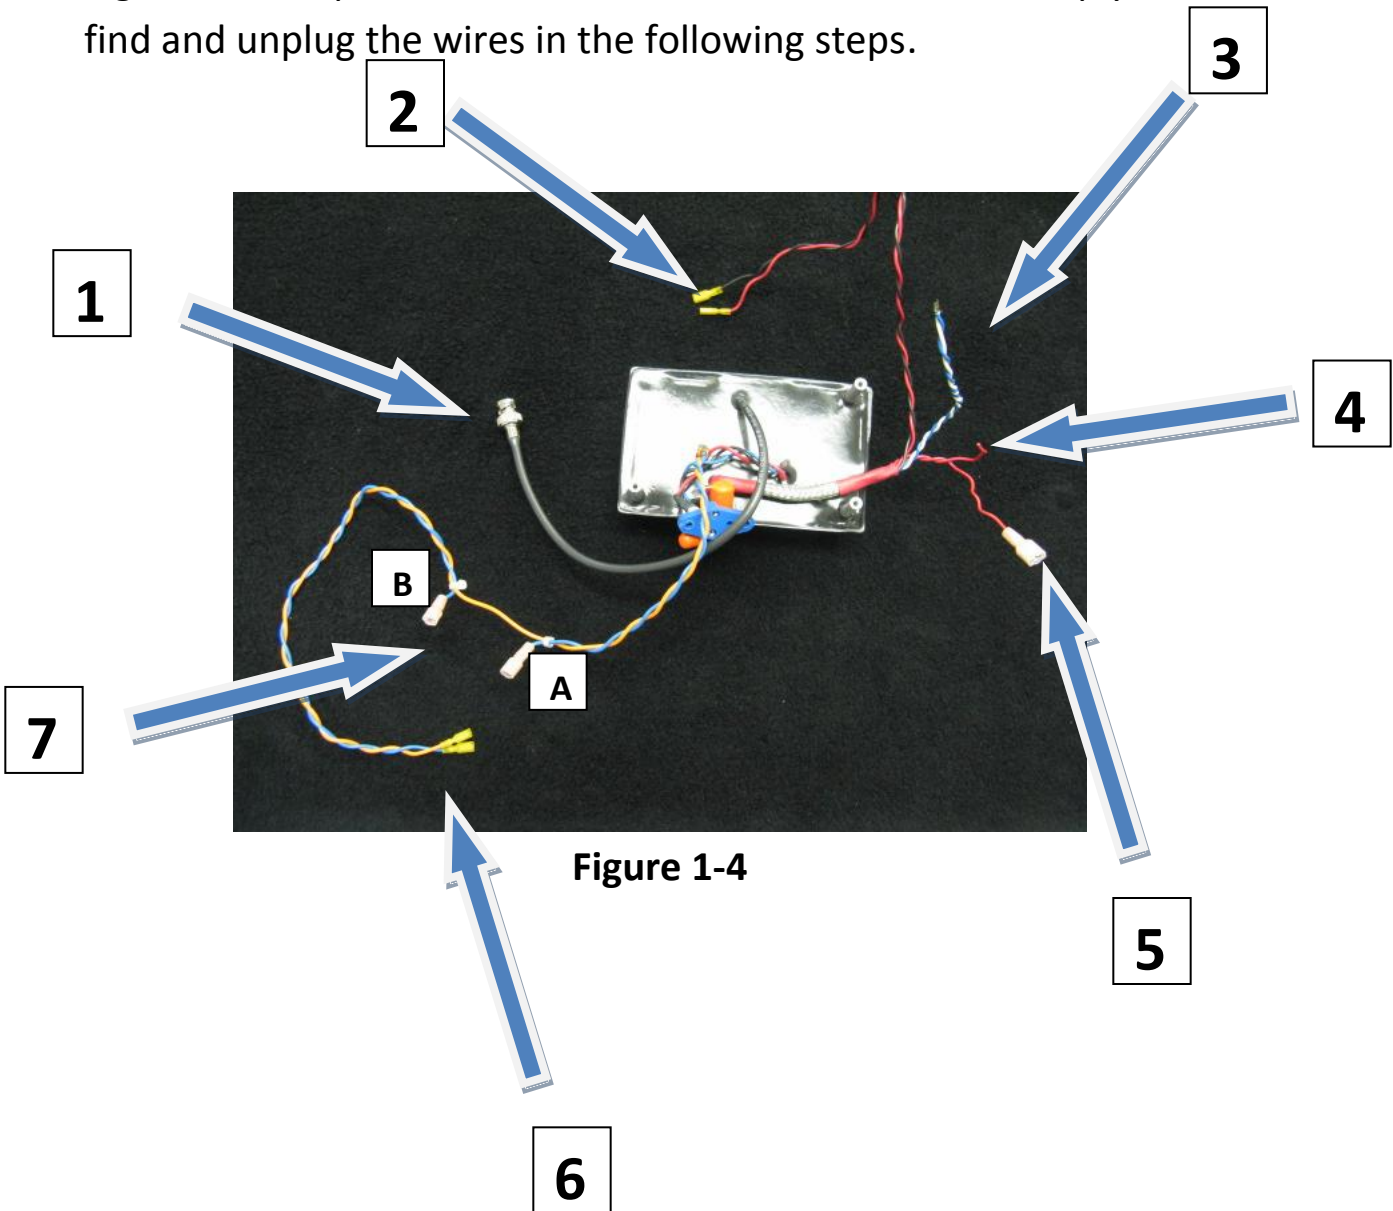

Figure 1-4
7. Figure 1-4 is a picture of the new oscillator, which will help you find and unplug the wires in the following steps.
11. From the orange and blue wires, the blue wires go on pins 6 and 10 of the transformer. The closest connector to the oscillator (A in figure 1-4) goes to pin 10. See figure 1-4 & 1-13.